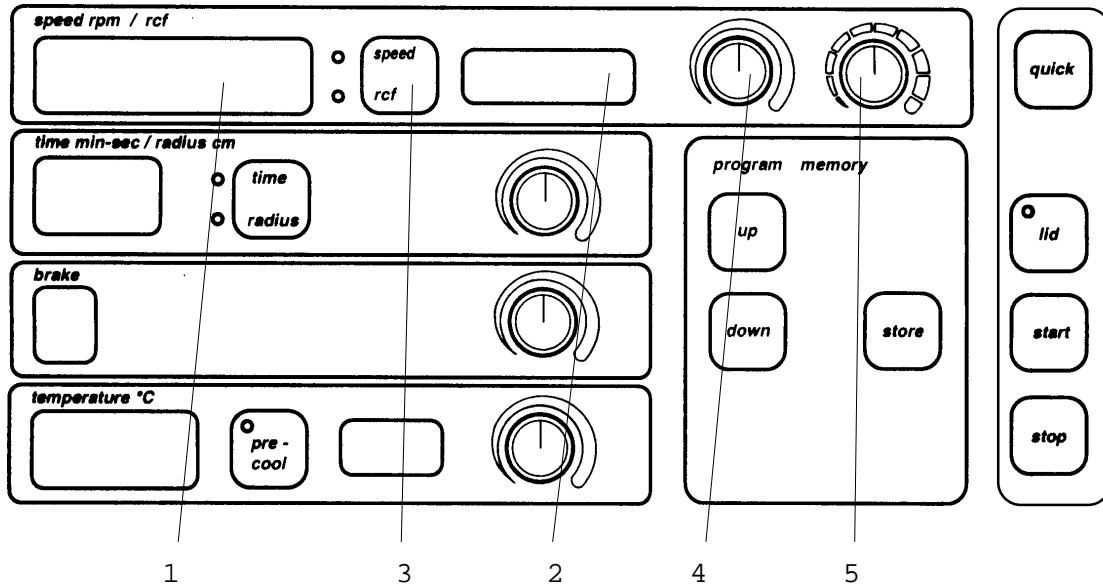

Figure 9
With the "speed/rcf" key(3) you can choose either the "speed" or "rcf" mode. The green LED display shows which mode is activated. Select the desired mode. With the turn knob (4) you can preselect the speed/rcf in steps of 500 rpm or correct the preset speed/rcf during the run. With the turn knob 5 you can preselect the speed/rcf in steps of 10 rpm or correct the preset speed/rcf during the run. The preset value will be indicated on the preset display (2). The actual speed will be indicated on the actual display (1). The preset speed/rcf should not be higher than the max. allowed speed/rcf of the inserted rotor. If the preset speed/rcf is too high, the preset display (2) of the speed/rcf will flash (see figure 9). The centrifuge will accelerate only to the max. allowed speed of the inserted rotor.